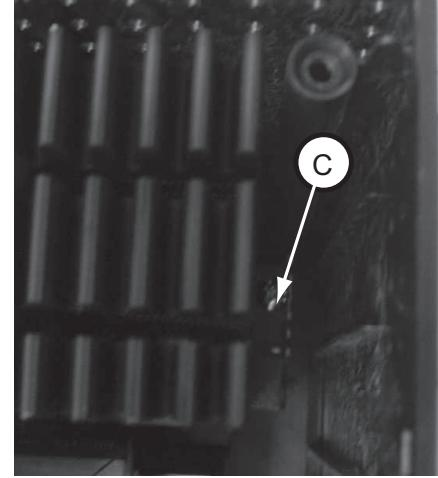

Figure 3
-1 screw "C" as shown in figure 3.